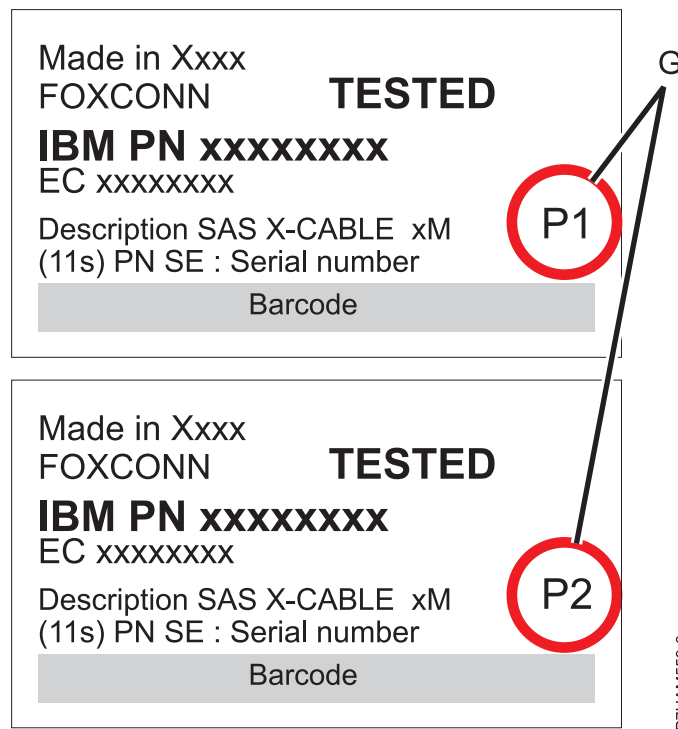

Figure 44. Labels for SAS adapter cables showing P1 and P2 identifiers
- The cable that plugs into independent SAS adapter 1 (C) contains a label with the P1 identifier (G), as shown in Figure 44 on page 74. This adapter does not have access to any other independent adapter and has access only to drive bays D1 - D6.
- The cable that plugs into independent SAS adapter 2 (D) contains a label with the P2 identifier (G), as shown in Figure 44 on page 74. This adapter does not have access to any other independent adapter and has access only to drive bays D7 - D12.
- The cable that plugs into independent SAS adapter 3 (E) contains a label with the P1 identifier (G), as shown in Figure 44 on page 74. This adapter does not have access to any other independent adapter and has access only to drive bays D13 - D18.
- The cable that plugs into independent SAS adapter 4 (F) contains a label with the P2 identifier (G), as shown in Figure 44 on page 74. This adapter does not have access to any other independent adapter and has access only to drive bays D19 - D24.